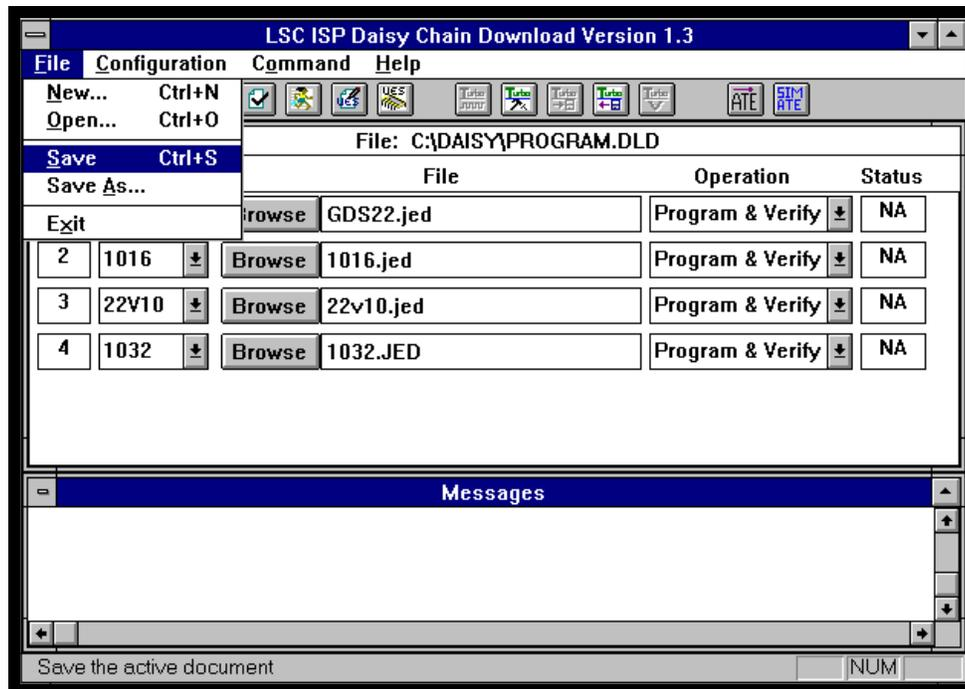

Figure 3-30. **File** ⇒ **Save** Menu Option
1. Select **File** ⇒ **Save** or click the **Save** icon from the ISP Daisy Chain Download menu (Figure 3-30).